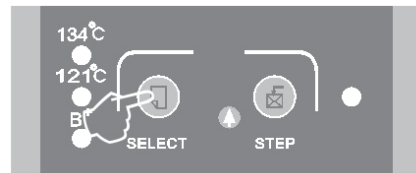

Figure 6-2
- a. Press "SELECT" to choose one of the programmes. The key toggles between the cycles at 121°C, 134°C and B+ mode. One of the indication lights turns on to show the programme you selected (Fig 6-2).